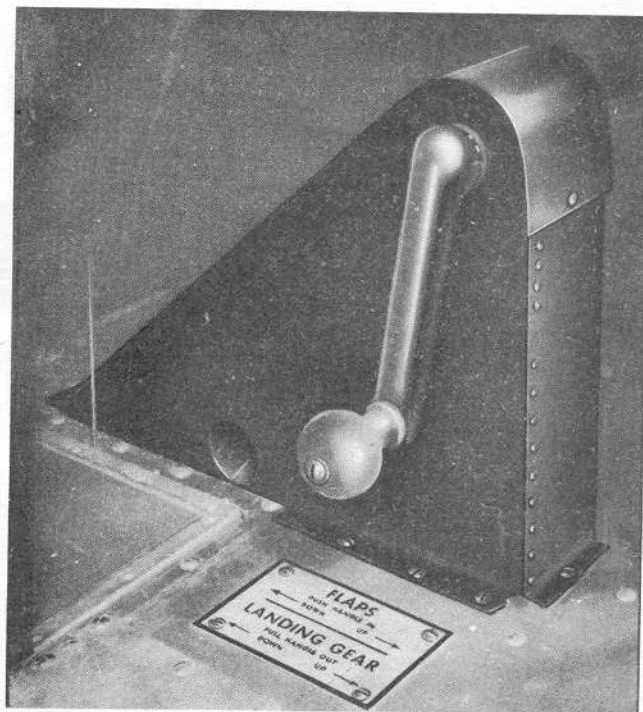

Figure 22—Landing Gear and Flap Hand Crank
(2) To operate gear manually, place operation switch in "CENTER" or "OFF" position, lift clutch pedal cover (figures 20 and 21) on the floor to left of control pedestal base, and disengage clutch by depressing clutch pedal with the foot. Pull out crank (figure 22) at right of pilot's seat to engage it and rotate clockwise to extend gear, counterclockwise to retract.
b. To operate flaps manually, use the hand crank (figure 22) at right side of pilot's seat. Push crank in and rotate clockwise to lower flaps, counterclockwise to raise them.